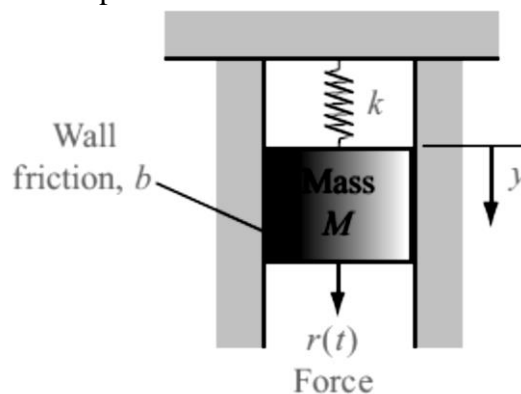

Figure 1. Spring-mass-damper system
1. Consider the system given in preliminary work Figure 1. Make the simulation for the system and obtain the output response. Draw this response to the datasheet. A1